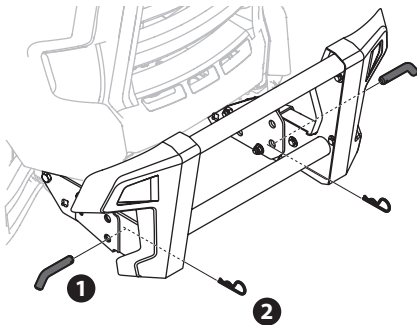

Fig. 17
2. Install the pins on the right and left side of brush guard (1) and then secure with two cotter pins (2) found in the hardware pack (Fig. 17).